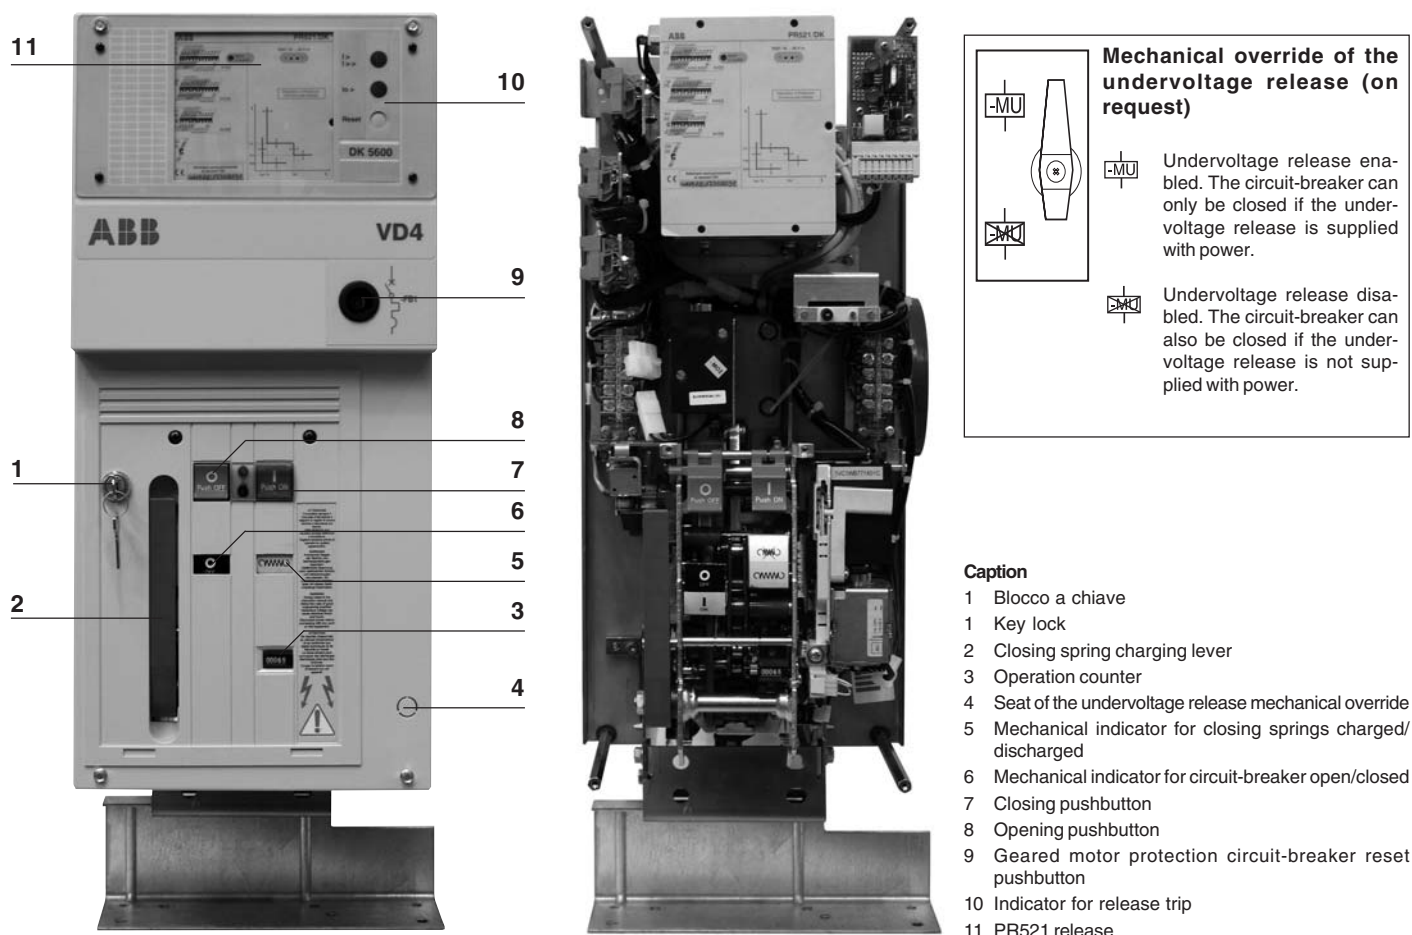

Fig. 6
a) Manual charging of the closing springs (fig. 6)
The operation can only be carried out with the closing springs completely charged. For manual closing, press the pushbutton (7 - fig. 6). When there is a shunt closing release, the operation can also be carried out remotely by means of the special control circuit. Closing having taken place is signalled by the indicator (6 - fig. 6).
To open manually, press the pushbutton (8 - fig. 6).
When there is a shunt opening release, the operation can also be carried out remotely by means of the special control circuit. Opening having taken place is signalled by the indicator (6 - fig. 6).